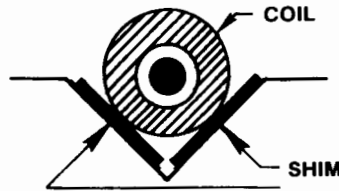

Figure 2. Velocity Transducer Adjustment
The magnetic core of the velocity transducer must not touch or rub on the velocity coil. Shine a light behind the coil and sight down the open end to see that the core is centered in the coil. Adjustment is made by putting in or taking out shims under the coil, (see figure 2).
- f. After the position transducer has been tightened in place, manually push and release the core bar to the right, then the left, while observing the trace on the oscilloscope. The waveform should go away from the vertically centered position while the core bar is being pushed, but return to within 0.5 volts of center after release. If the waveform is not returning to zero after the core bar is released, there may be some binding occurring at the linear actuator on the core bar, or in the velocity transducer, (see figure 2). The binding must be relieved before operating the printer to avoid possible damage to the linear actuator coil.